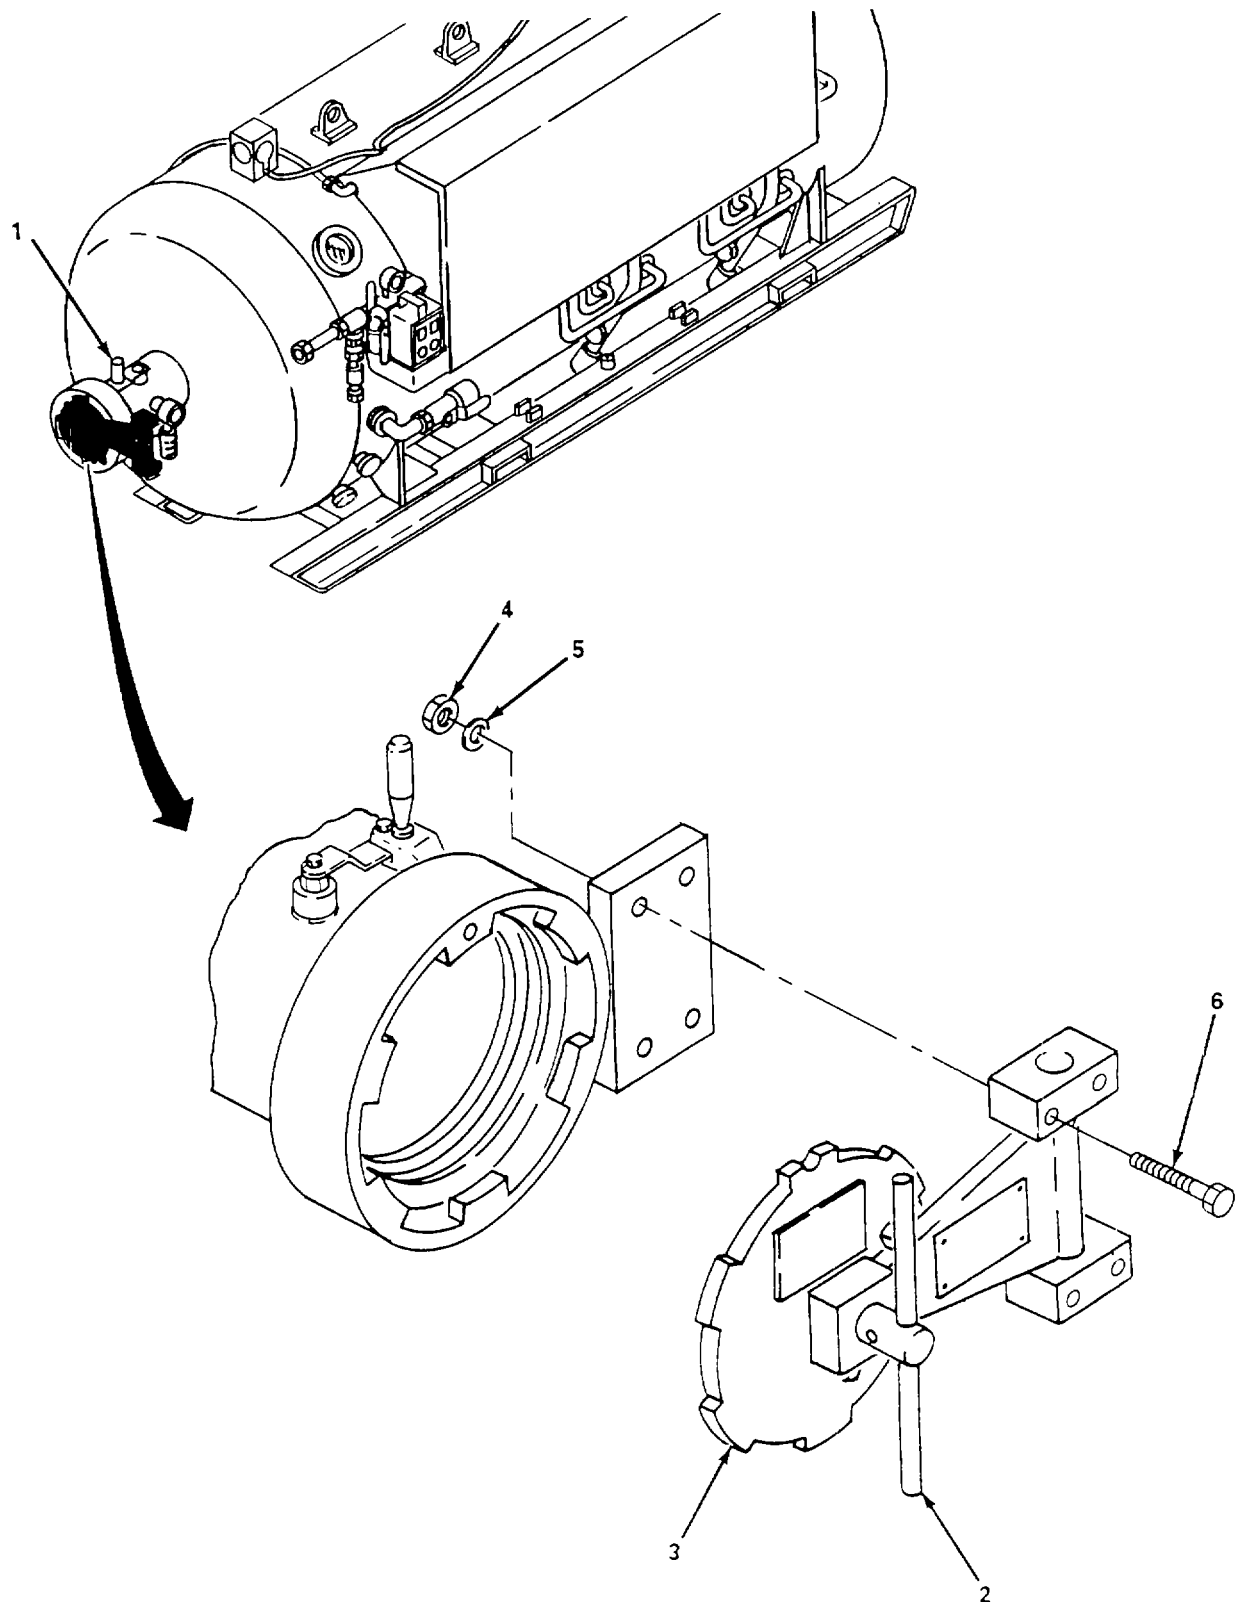

Figure 5-1. Medical Lock (M/L) Outer Door Assembly, Replace.
a. Replace. (figure 5-1)
- (1) Unlock lock pin assembly (1) and turn handle (2) counter clockwise to unlock door assembly (3).
- (2) Remove four nuts (4), lockwashers (5) and bolts (6) and remove door assembly (3).
- (3) Position door assembly (3) and secure with four bolts (6), lockwashers (5) and nuts (4).
- (4) Turn handle (2) clockwise to lock door assembly (3) and lock, lock pin assembly (1).